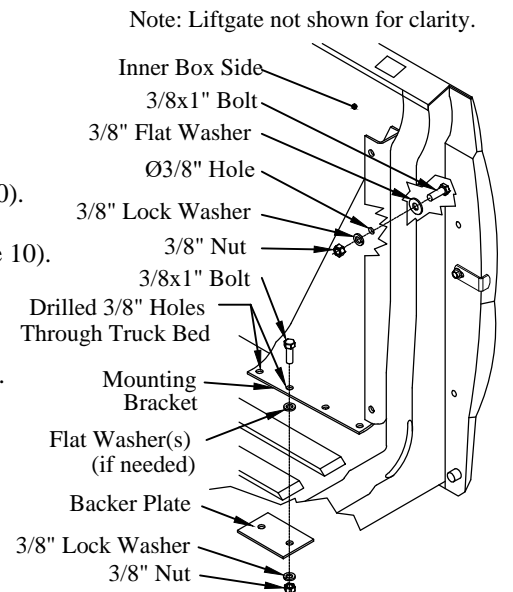

Figure 10: Mounting bracket hardware.
Note: Flat washers **must** be added under bracket to fill any bed to bracket gap (Figure 10).
- 7. Drill** two (2) 3/8" holes into the truck bed floor using the two holes (closest to the front of the truck) in the bracket as a guide (Figure 10).
- (2) 3/8"x1" hex head bolts on the top-side (Figure 10).
- (1) backer plate, (2) lock washers, and (2) hex nuts on the under-side (Figure 10).
- 9. Drill** a 3/8" hole through the inner box side using the bracket's hole as a guide (Figure 10).
- (1) 3/8" lock washer and (1) 3/8" nut on the bracket-side (Figure 10).
- (1) 3/8"x1" hex head bolt and (1) 3/8" flat washer on the truck-side (Figure 10).